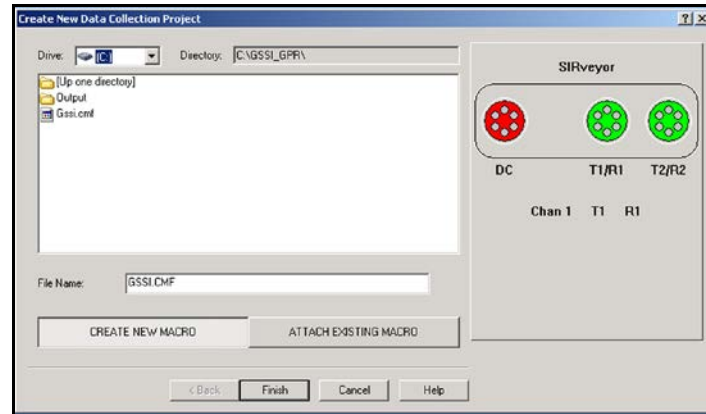

Figure 39: Attach a Macro or Create a New One.
- 6** This screen controls your collection parameters. Most of the time the default settings will be fine. To access settings for different applications click the small arrow in the Config Type (1) option.
- For example, if you are scanning an area with a 400 MHz antenna to find underground utilities and storage tanks, choose UTILITY. Then choose your antenna type under Config Name (2). Common data collection parameters will be automatically set.
- 7** Check to make sure that Scans/ft (7) is adequate for your application. The general rule is the more scans/unit that you collect, the slower your collection speed, the larger your data file, and the more stretched your file will appear. When you are finished, click Next > to open the Create New Data Collection Project window.
- 8** The next window (Figure 39) will prompt you to either create a new macro or attach one that you have already created. A macro is nothing more than a saved list of data collection parameters. These parameters include: filters, time range and gain settings. These will vary from job to job, so it is possible you will have many different macros for different situations.